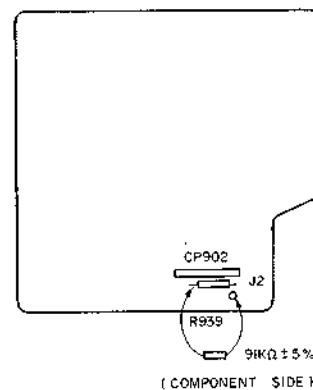

Fig. 4 Power supply board
- 1) Connect J2 with an intermediate point between R939 and terminal 2 – 3 of CP902 by a resistor  $9\text{ k}\Omega \pm 5\%$ . – Fig. 4